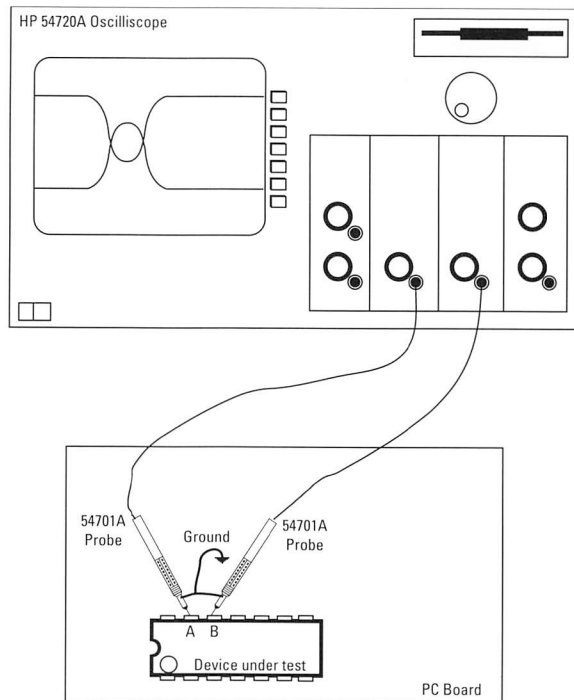

Figure 7. Points A and B are the true and complement sides of a differential ECL signal.
1. Connect the two 54701A probes to the two sides of the differential signal as shown in figure 7.